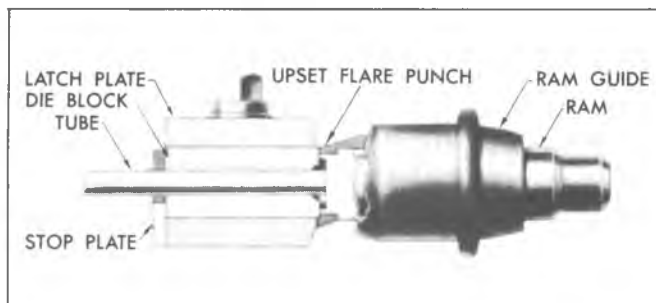

Fig. 36--Positioning Tube
5. Slip the punch into the tool body with the gauge end toward the die blocks, install the ram and tap lightly until the punch meets the die blocks and they are forced securely against the stop plate (fig. 36).